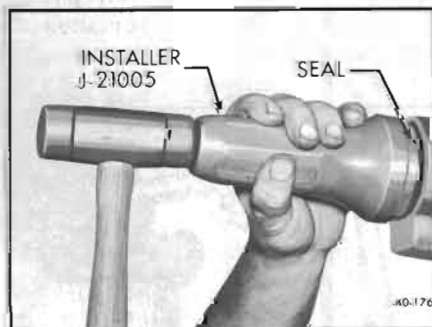

Figure 40-176—Installing Pinion Seal
6. Install new "O" ring seal on pinion. Coat O.D. of new pinion seal with sealing compound and install seal using Installer J-21005. See Figure 40-176.